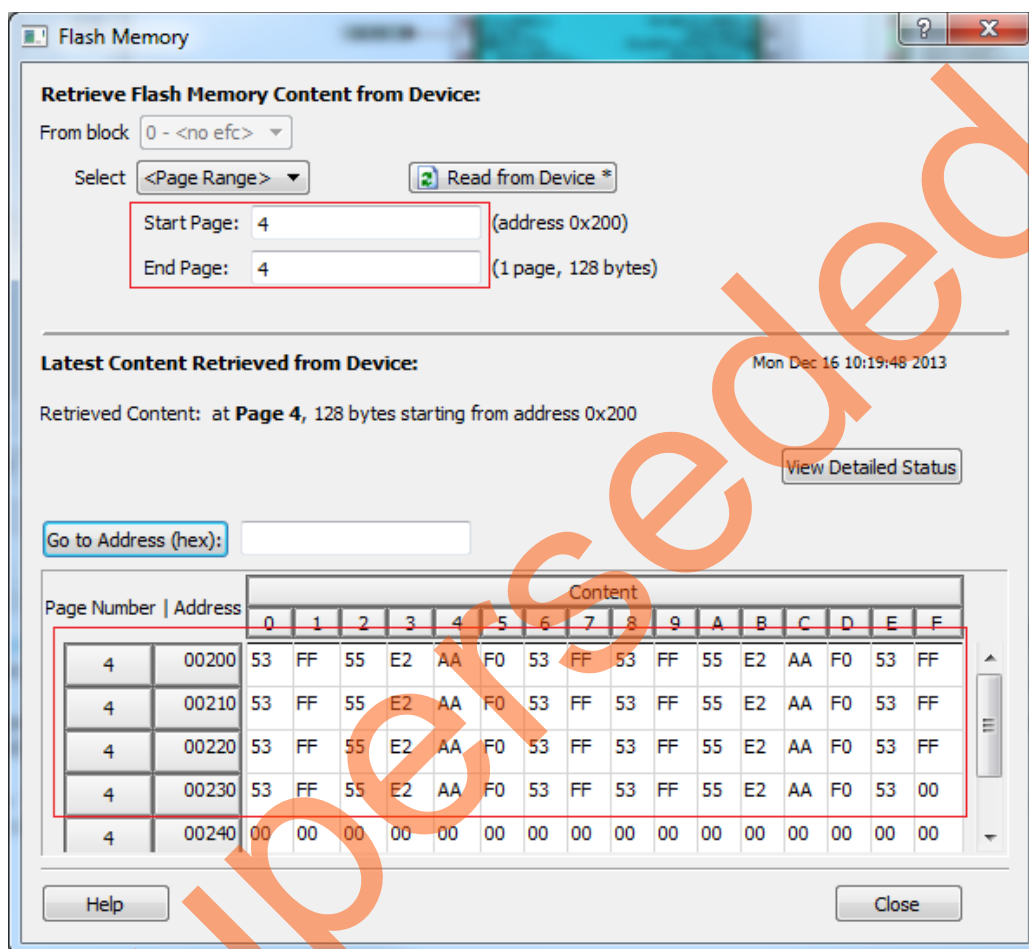

Figure 2-6 • Flash Memory (eNVM) Content Read from the Device
1. Using the SmartDebug window, select the **View Flash Memory Content** option. The Flash Memory window opens, as shown in Figure 2-6.